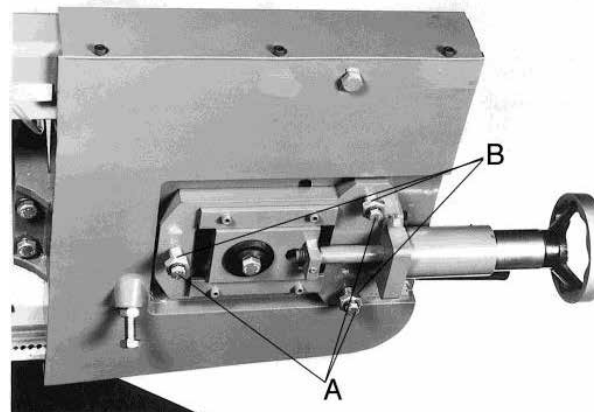

Figure 9. Blade Tracking Adjustment
4. See Figure 9. Loosen the three bolts (A) located on the top of the tracking nuts. Tracking adjustment is accomplished by either loosening or tightening three adjusting nuts (B).